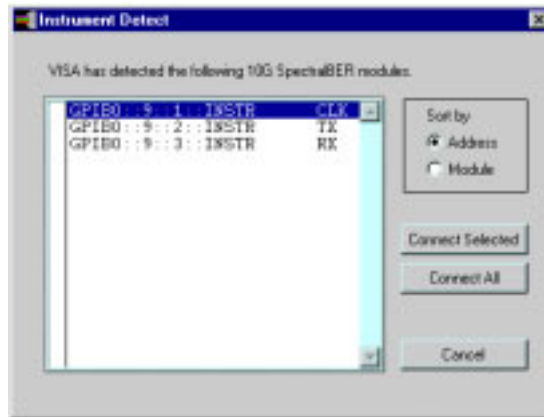

Figure 2-11. Instrument Detect Window
1. The Instrument Detect window shown in Figure 2-11 will be displayed.: